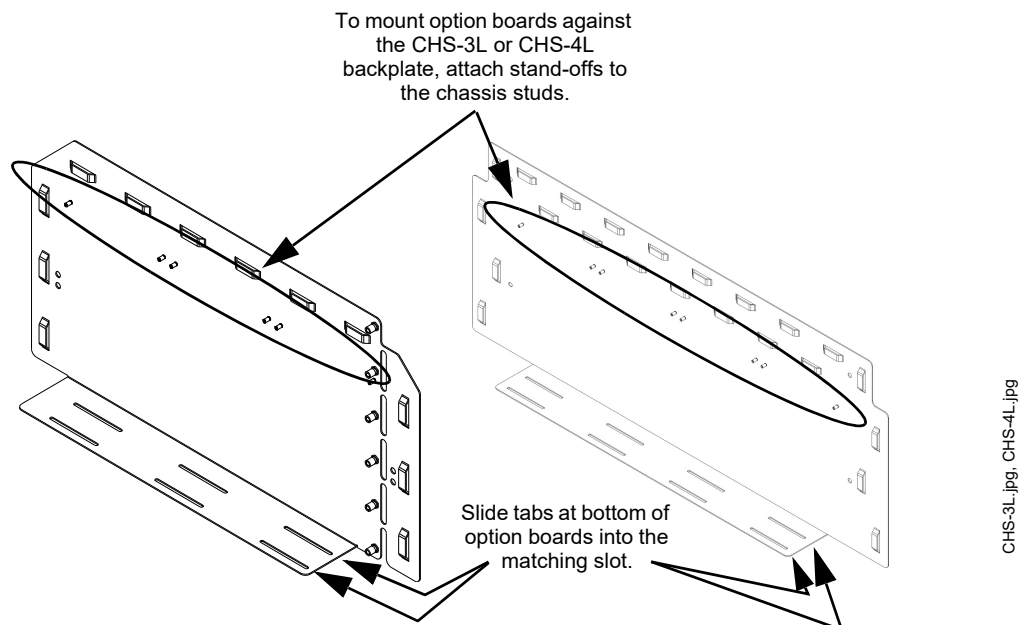

Figure 3.1 Mounting Option Boards in CHS-3L and CHS-4L
1. Install two 3/4 inch (19.05 mm) stand-offs onto the chassis as shown in Figure 3.1.